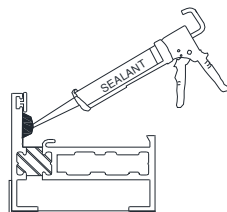

Figure 15:
1. Before glazing, apply a continuous bead of sealant to the inner frame (Figure 15).